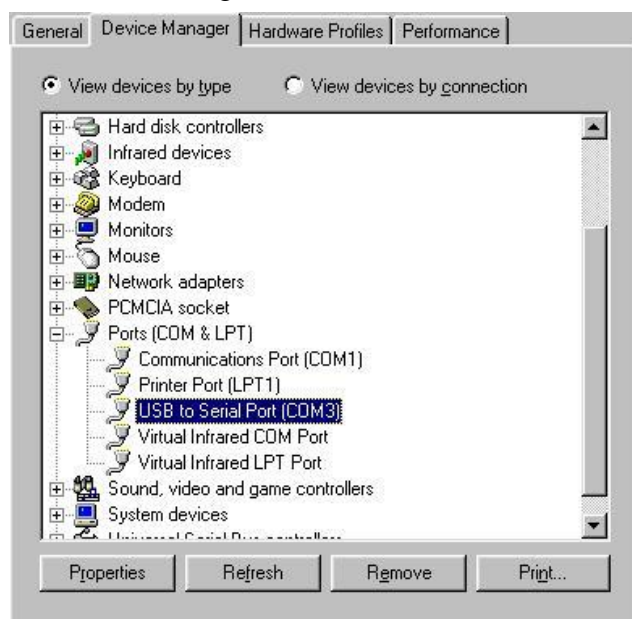

Fig. 8
2. Double click and run the installation file "PL-2303 Driver Installer" to install the USB driver. After installation, restart your computer, and you will find a "USB to Serial Port" driver in the Device Manager list, as shown in Fig. 8.
4. Connect the SynScan™ GPS mouse to the USB to MINI-DIN(F) cable and insert the USB connector into a USB port on your PC.
5. Double click to open “PGViewer.exe”, and set the communication port to match the port where the “USB to Serial Port” driver is installed in the Device Manager list. In the example shown in Fig. 8, this would be COM5.